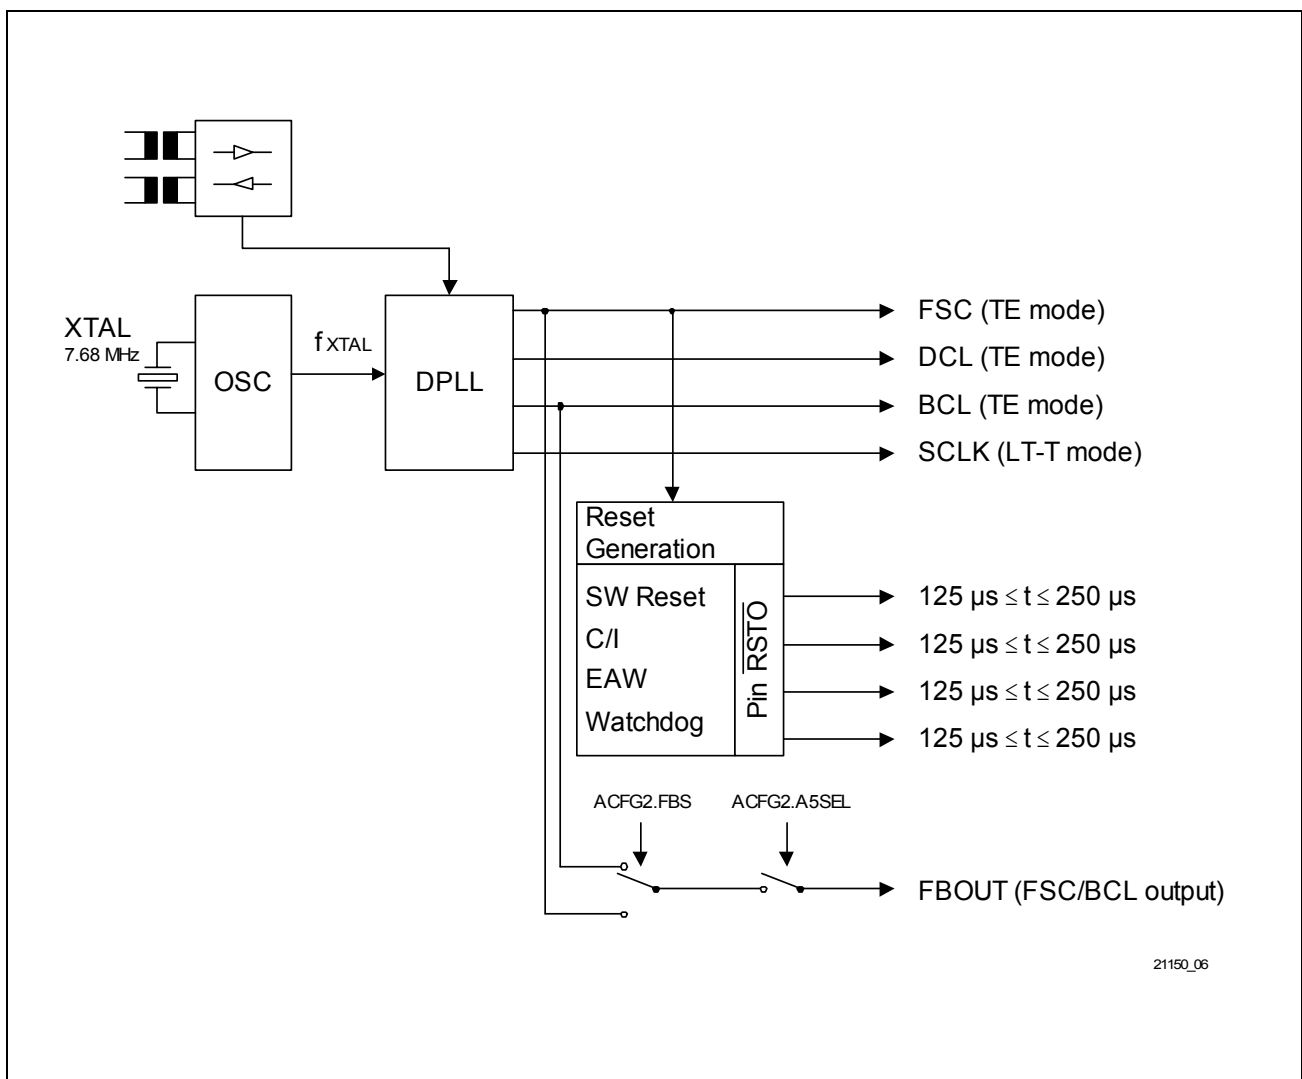

**Figure 34** Clock System of the ISAC-SX
**Figure 34** shows the clock system of the ISAC-SX. The oscillator is used to generate a 7.68 MHz clock signal ( $f_{XTAL}$ ). In TE mode the DPLL generates the IOM-2 clocks FSC (8 kHz), DCL (1536 kHz) and BCL (768 kHz) synchronous to the received S/T frames. In LT modes these pins are input and in LT-T mode an 1536 kHz clock synchronous to S is output at SCLK which can be used for DCL input.